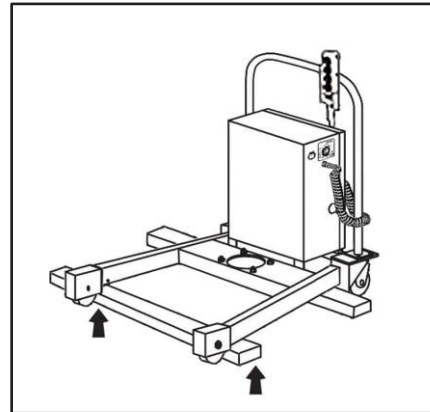

Figure 76
3. Tilt the LifTILTruk backwards and slide another block, identical to the rear block, under the front of the frame legs (Figure 76). Servicing to the wheels, casters, column or associated hydraulic parts can now be performed.